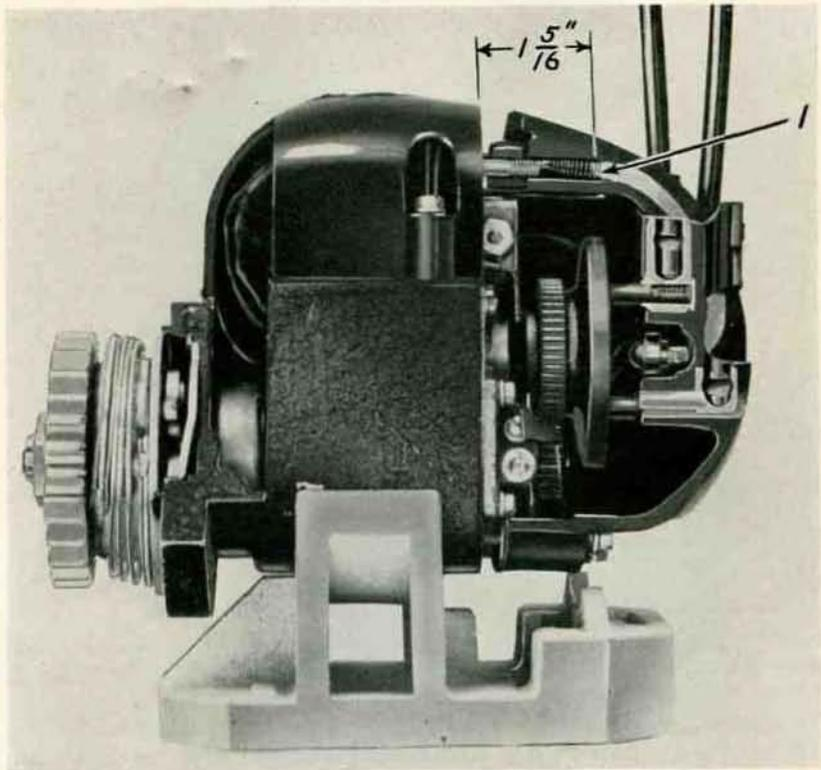

Fig. 4. Sectional View of Magneto
Make sure distributor cap gasket is not broken. Be sure the springs are on the brushes straight and brushes are free in the distributor block. Test with tips of fingers; you should not be able to make these stick in any position. Be sure center brush is not worn down below brass retainer. There will be some carbon dust worn off the brushes around in the block. This is not detrimental unless it becomes extremely heavy. Wipe out with a soft cloth, being careful not to damage the brushes or springs. The spring on the end of the coil lead wire must not be bent, and must be long enough so it makes contact with the insert in the distributor block after the block is assembled onto the magneto as shown in (1) Fig. 4.